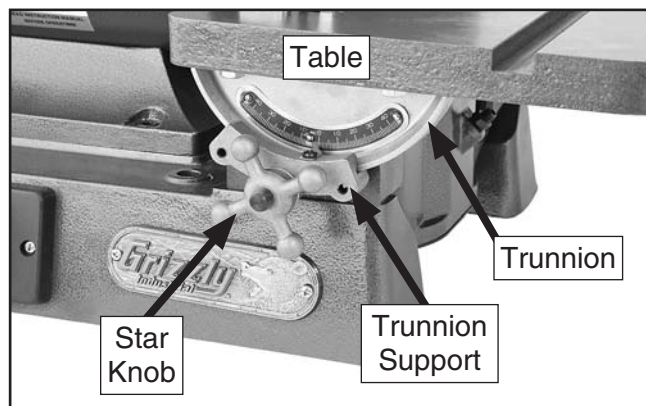

Figure 2. Disc sander table support components.
2. Remove both star knobs that secure the disc sander table (see **Figures 2–3**), slide the trunnion supports off the knob studs, then remove the table.